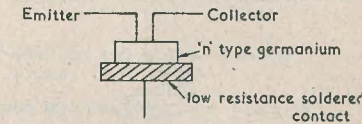
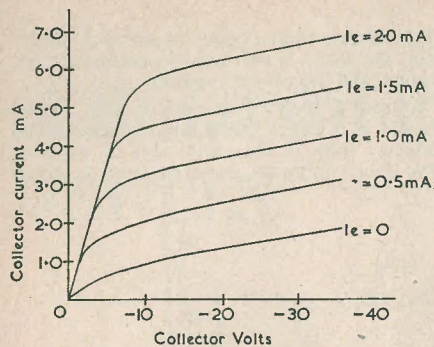

FIG. 2. DIAGRAM OF POINT CONTACT TRANSISTOR
FIG. 3. Static characteristics of typical point contact transistor
**Point Contact Transistors.** The action of the current in one whisker affecting that in the adjacent one is best explained by regarding the first whisker as injecting positive holes into the semi-conductor and making it more conductive. The whisker used for this purpose is known as the emitter, whilst the other whisker is called the collector. The 'n' type germanium which is the usual semi-conductor material employed in these devices is called the base. The device is shown diagrammatically in Fig. 2. Its family of curves shown in Fig. 3 bears some similarity to that of a thermionic pentode but this similarity does not extend very far. It will be noted that the collector current is plotted against collector voltage for various values of emitter current instead of voltage. The input impedance of a transistor is low and usually below  $500 \Omega$ . The output impedance is in the region of  $20,000 \Omega$ . Circuits to use them have to be different in many respects from those which are familiar for thermionic valves, and a new approach is needed. It is better to regard the devices as current amplifiers rather than voltage amplifiers. No attempt will be made here to go into detailed applications, but it is thought that the most fruitful fields will be in computers and in Services equipment where space and ruggedness are at a premium. It will be noted that a negative H.T. supply is needed for point contact transistors, and that positive